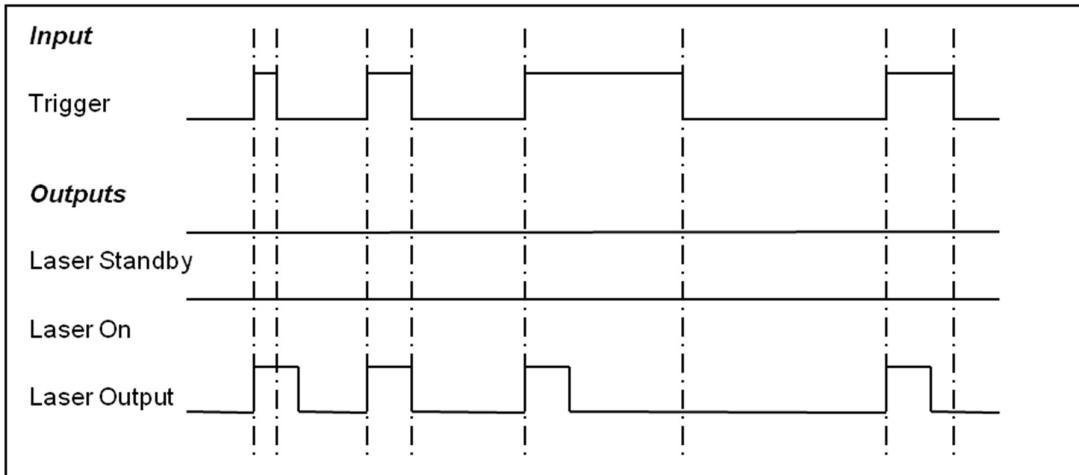

Figure 42 Edge Trigger Operation(Pulsed Output Only)
- See Figure 15 to Figure 42 for example functionality.